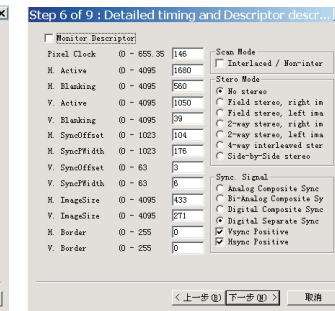

Fig. 40
5. Click Next, bring up Fig. 40.
- Configuration should be as Fig. 40. And press OK.